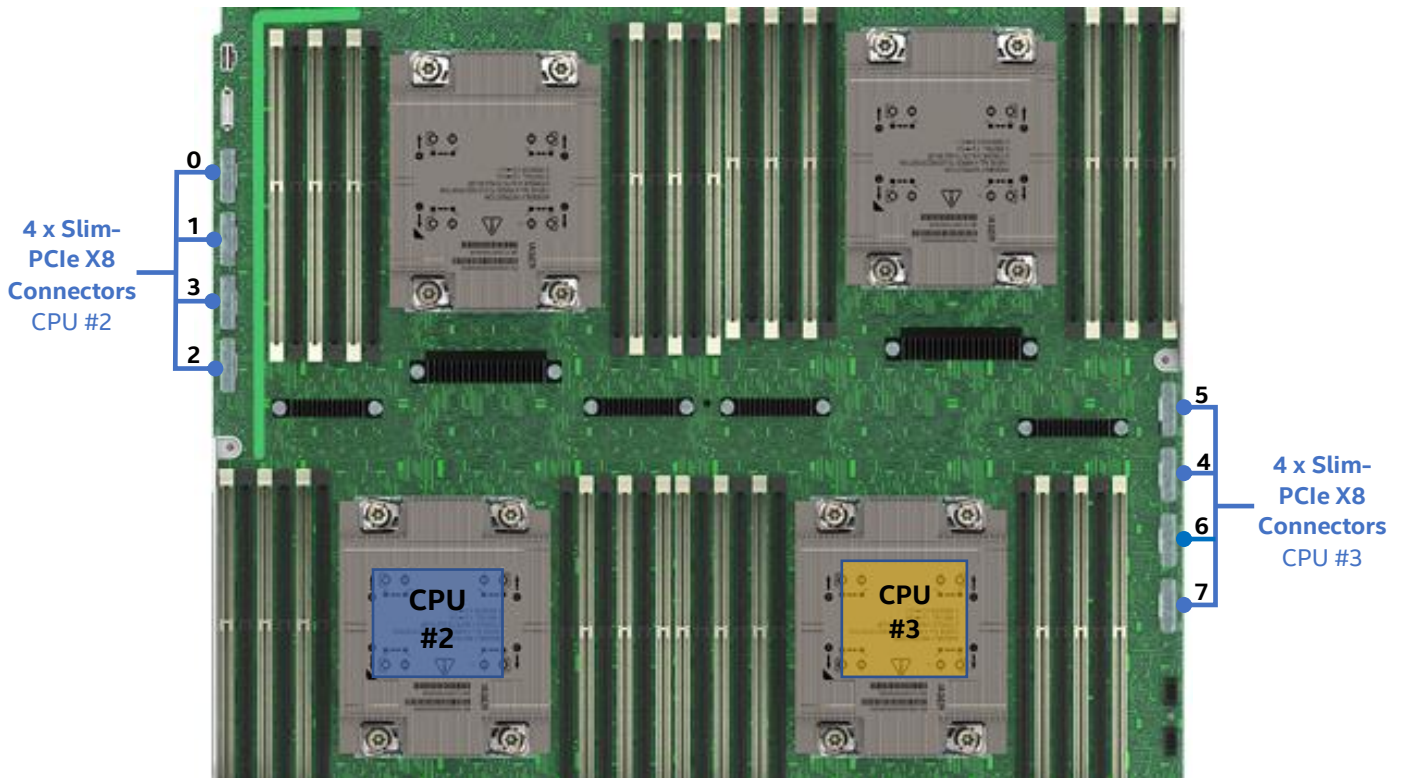

Figure 41. On-board Slim-line PCIe Connectors
The Intel® M70KLP server board includes eight (8) X8 Slim-PCIe cable connectors. A bank of four connectors (labeled Slim0 – Slim3) on the left edge of the server board is supported by CPU 2. A bank of four connectors (labeled Slim4 – Slim7) on the right edge of the server is supported by CPU 3. See Figure 41.